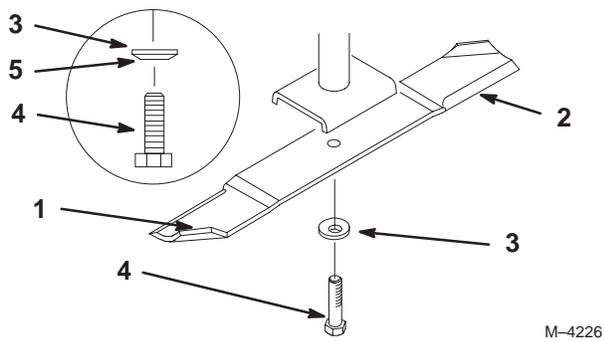

Figure 33
1. Hold the blade end using a rag or thickly-padded glove. Remove the blade bolt, spring disk and blade from the spindle shaft (Fig. 33).
2. Check the balance of the blade by putting it on a blade balancer (Fig. 32). If the blade stays in a horizontal position, the blade is balanced and can be used. If the blade is not balanced, file some metal off the end of the sail area only (Fig. 33). Repeat this procedure until the blade is balanced.
1. Install the blade onto the spindle shaft (Fig. 33).
2. Install the spring disk and blade bolt (Fig. 33). **Torque the blade bolt to 85–110 ft-lb (115–150 N•m).**